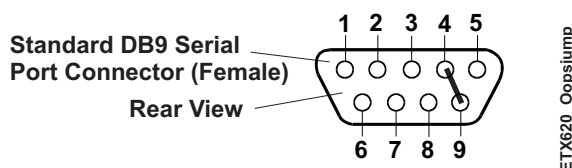

Figure 3-1. Oops! Jumper Connection
To convert a standard DB9 connector to a Oops! jumper for use on the custom baseboard, short together the DTR (4) and RI (9) pins on the rear of the connector as shown in Figure 3-1 on the Serial Port 1 DB9 connector.